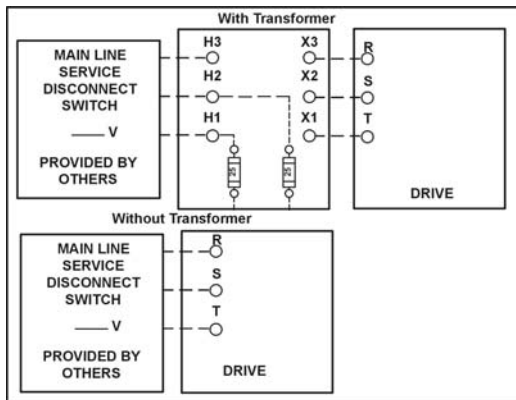

Figure 1-5a
- The third circuit required common to all drive types is 3 phase Main Line power. This 3 phase power will either connect directly into a fuse block in the drive side of the controller or to the primary side of an Isolation, Step Up or Step Down power transformer. If a power transformer is used the secondary side will be wired to the fuse block in the drive side of the controller. [See Figure 1-5a and 1-5b.]